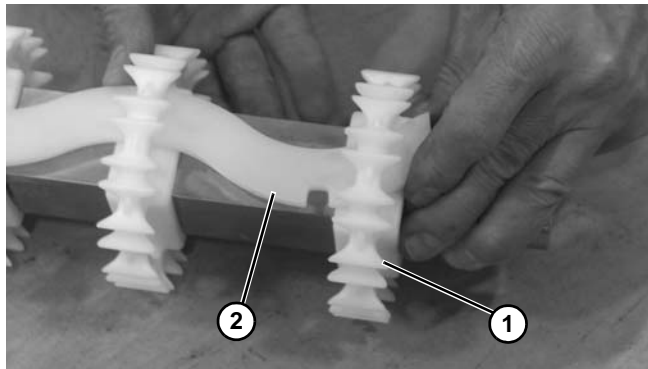

Figure 60
- Slide entire sprocket assembly slightly outward, and remove the first sprocket (**Figure 60, item 1**) off the drive spindle and alignment key (**Figure 60, item 2**).